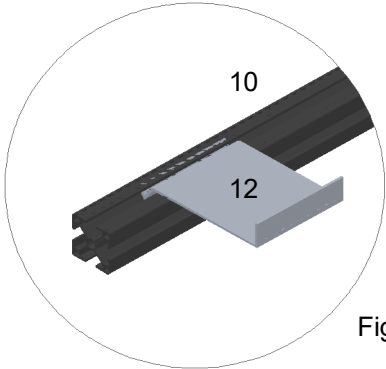

Fig. 5
7. Hook the prescribed amount of anti-slip devices (12) into the mounting rail (10) at the bottom (see Fig. 5).